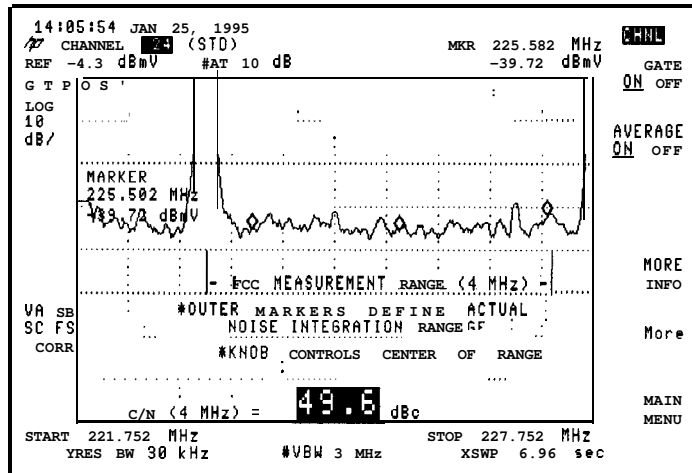

Figure 2.12. Carrier-to-Noise—Modulation and Gating On
- d. Press CONTINUE to complete the measurement and display the test results on the screen. See Figure 2-12.